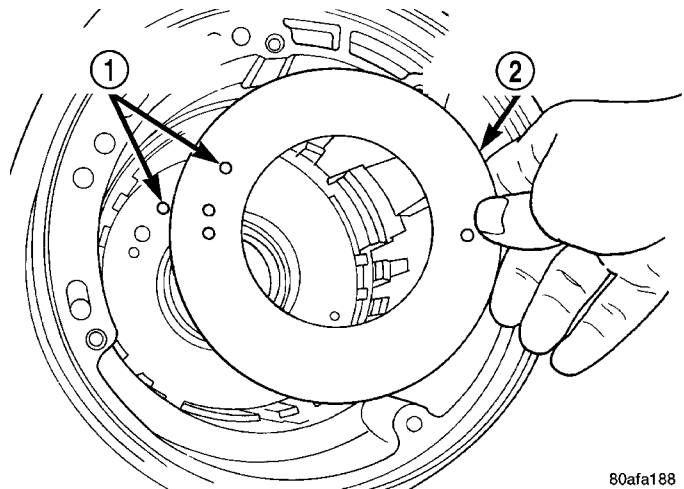

Fig. 86 Install Piston Retainer Gasket
(2) Install low/reverse piston retainer gasket (Fig. 86). Make sure gasket holes line up with case.